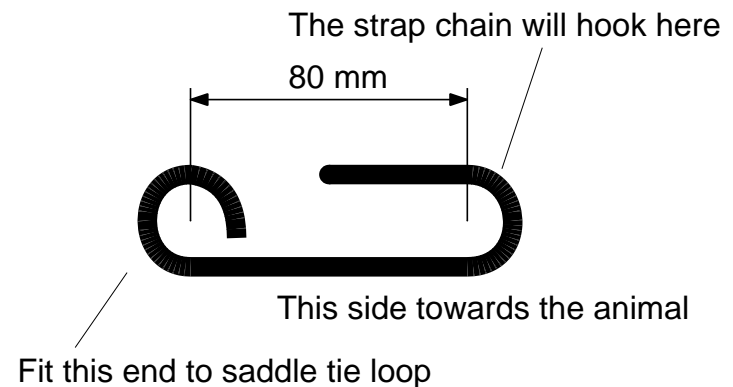

Figure 12: chain hooks for straps.
- 11) Make the strap chain hooks from more 6 mm re-bar as shown in Figure 12 and fit the fixed ends to the saddle tie loops.